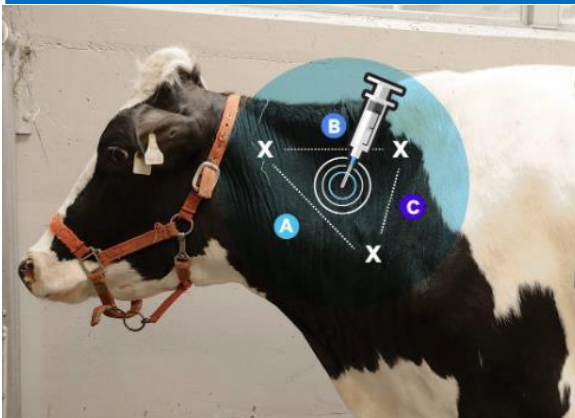

FIGURE 4: Intramuscular injection zone: NECK
triangle is broadest at the shoulder and tapers up towards the ear (Figure 4). The landmarks for finding the triangle are:
- 5.10.2.1 The upper boundary is located below the spinal column following the line of the neck crest. (“A” illustrated in Figure 4)
- 5.10.2.2 The lower or angular boundary runs along and above the jugular furrow, which is in the middle of the neck. (“B” illustrated in Figure 4)
- 5.10.2.3 The posterior boundary (the one closest to the rear of the animal) follows the line above the point of the shoulder, which angles up towards the top line or top of the shoulder. (“C” illustrated in Figure 4)